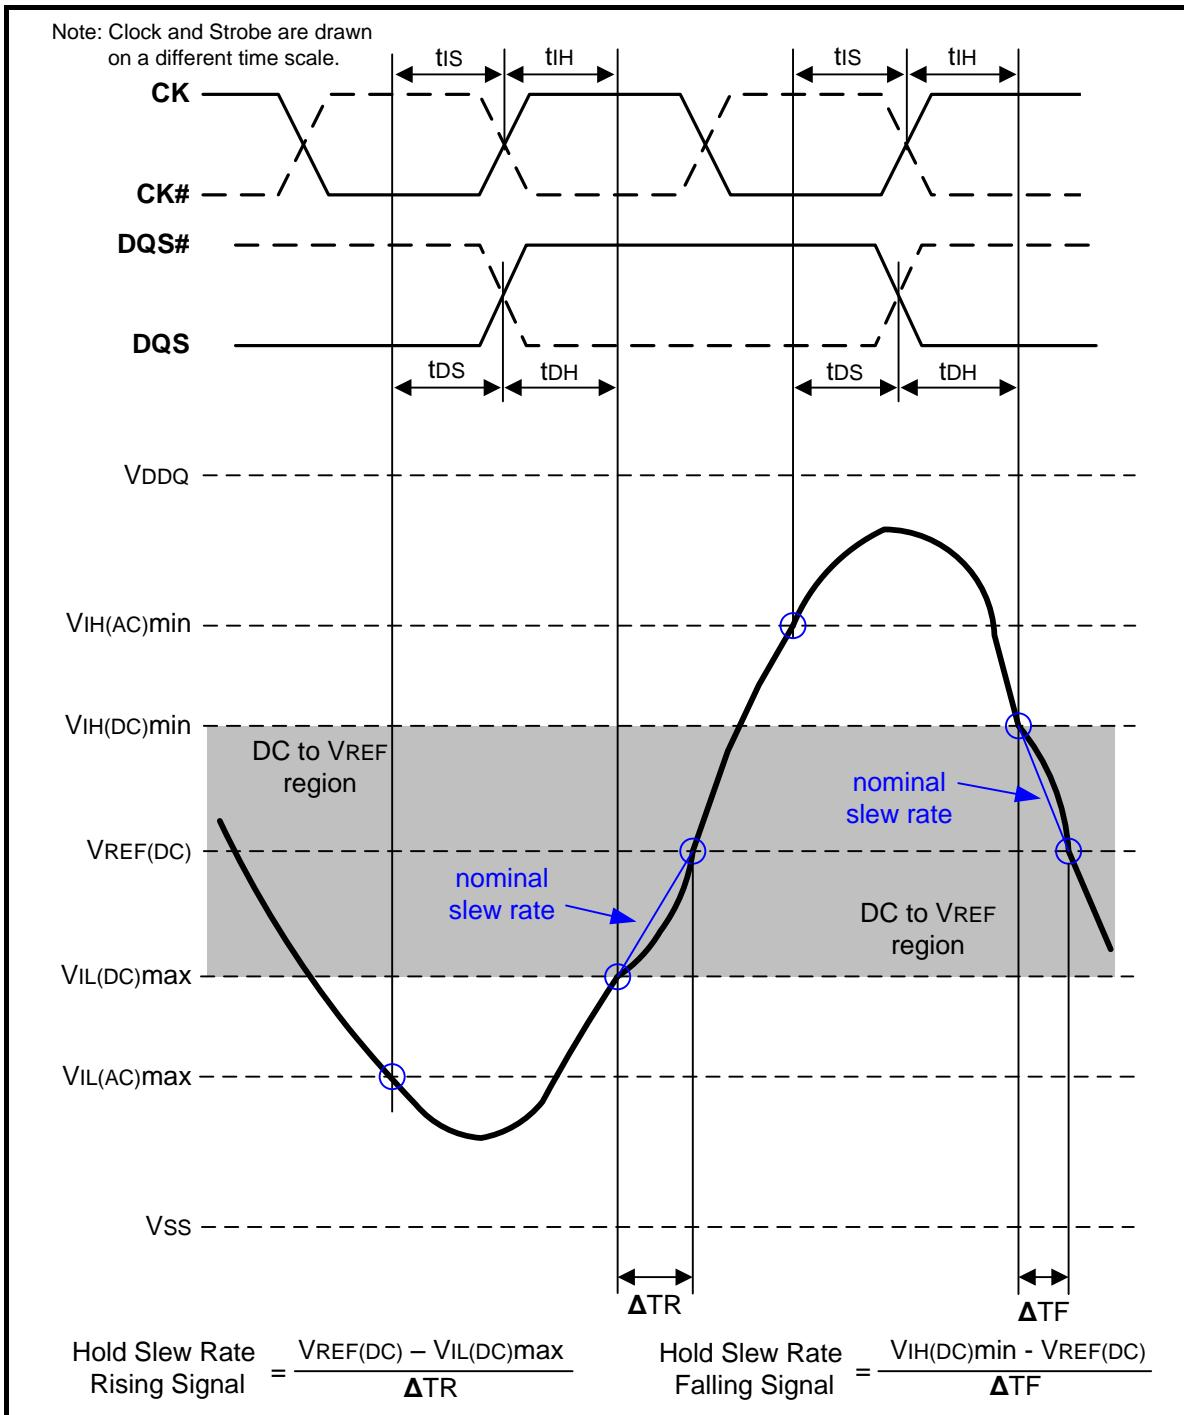
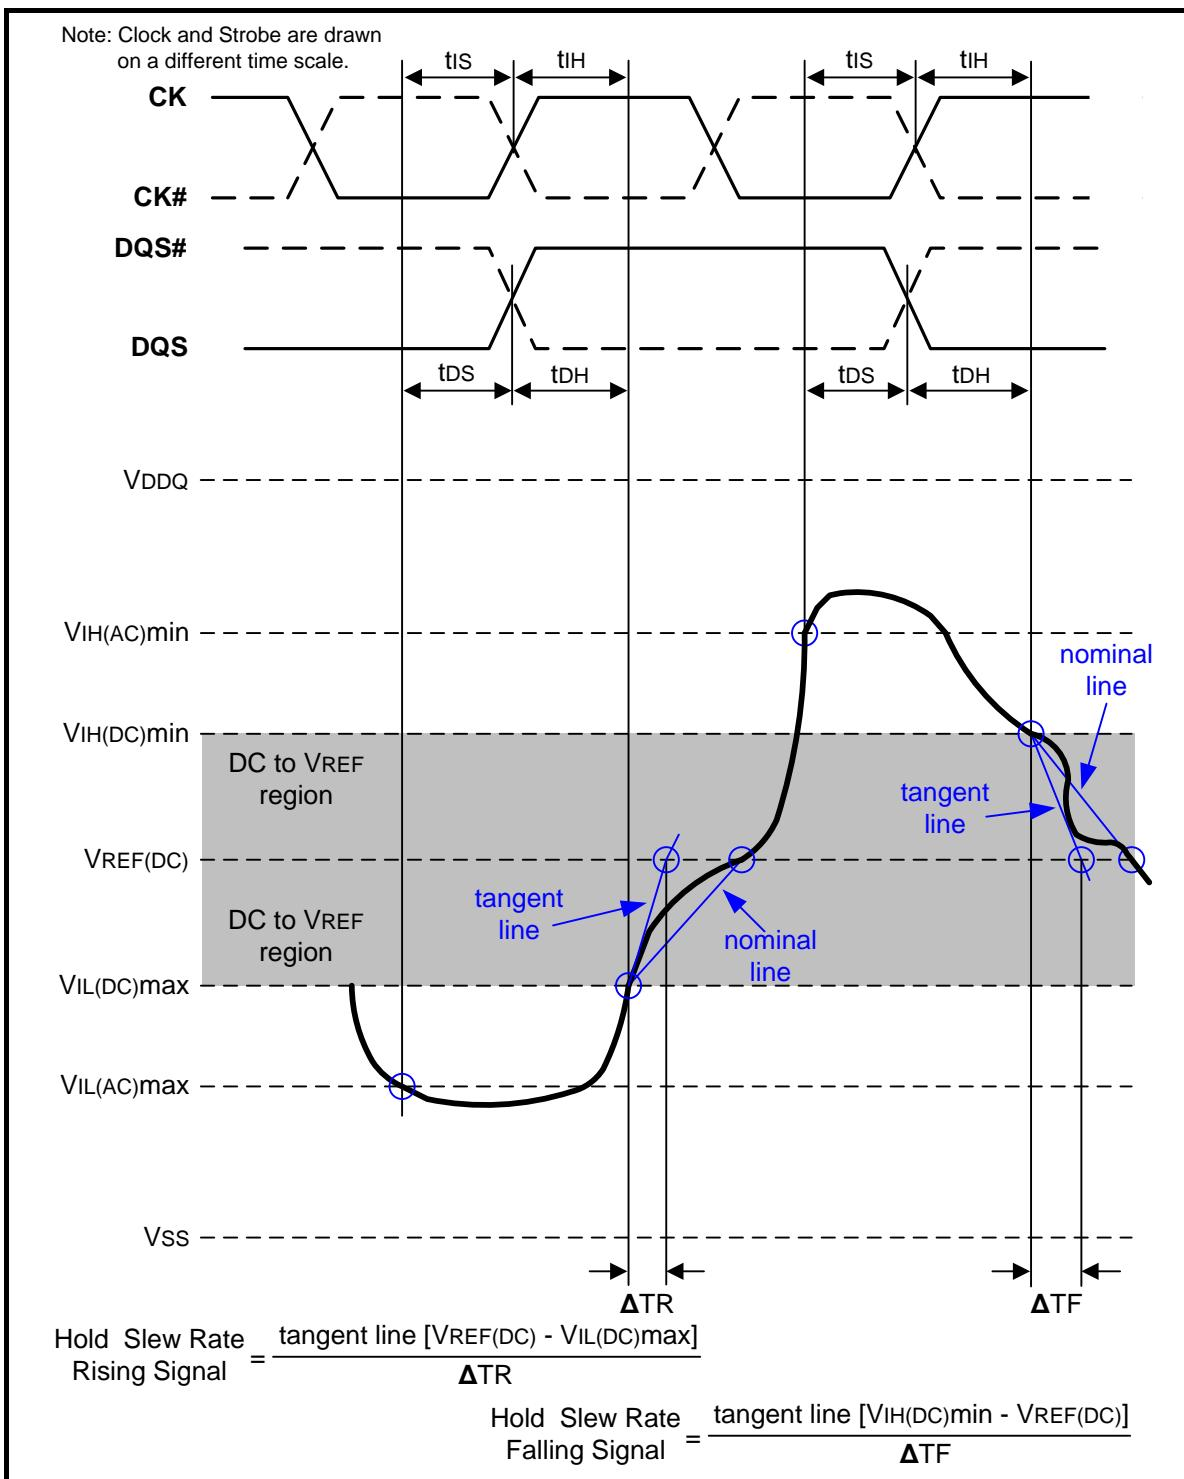

Figure 108 – Illustration of nominal slew rate for hold time  $t_{DH}$  (for DQ with respect to strobe) and  $t_{IH}$  (for ADD/CMD with respect to clock)
Figure 110 – Illustration of tangent line for hold time  $t_{DH}$  (for DQ with respect to strobe) and  $t_{IH}$  (for ADD/CMD with respect to clock)
Hold (tIH) nominal slew rate for a rising signal is defined as the slew rate between the last crossing of VIL(DC)max and the first crossing of VREF(DC). Hold (tIH) nominal slew rate for a falling signal is defined as the slew rate between the last crossing of VIH(DC)min and the first crossing of VREF(DC). If the actual signal is always later than the nominal slew rate line between shaded 'DC to VREF(DC) region', use nominal slew rate for derating value (see Figure 108). If the actual signal is earlier than the nominal slew rate line anywhere between shaded 'DC to VREF(DC) region', the slew rate of a tangent line to the actual signal from the DC level to VREF(DC) level is used for derating value (see Figure 110).
Hold (tDH) nominal slew rate for a rising signal is defined as the slew rate between the last crossing of VIL(AC)max and the first crossing of VREF(DC). Hold (tDH) nominal slew rate for a falling signal is defined as the slew rate between the last crossing of VIH(AC)min and the first crossing of VREF(DC) (see Figure 108). If the actual signal is always later than the nominal slew rate line between shaded 'DC level to VREF(DC) region', use nominal slew rate for derating value. If the actual signal is earlier than the nominal slew rate line anywhere between shaded 'DC to VREF(DC) region', the slew rate of a tangent line to the actual signal from the DC level to VREF(DC) level is used for derating value (see Figure 110).